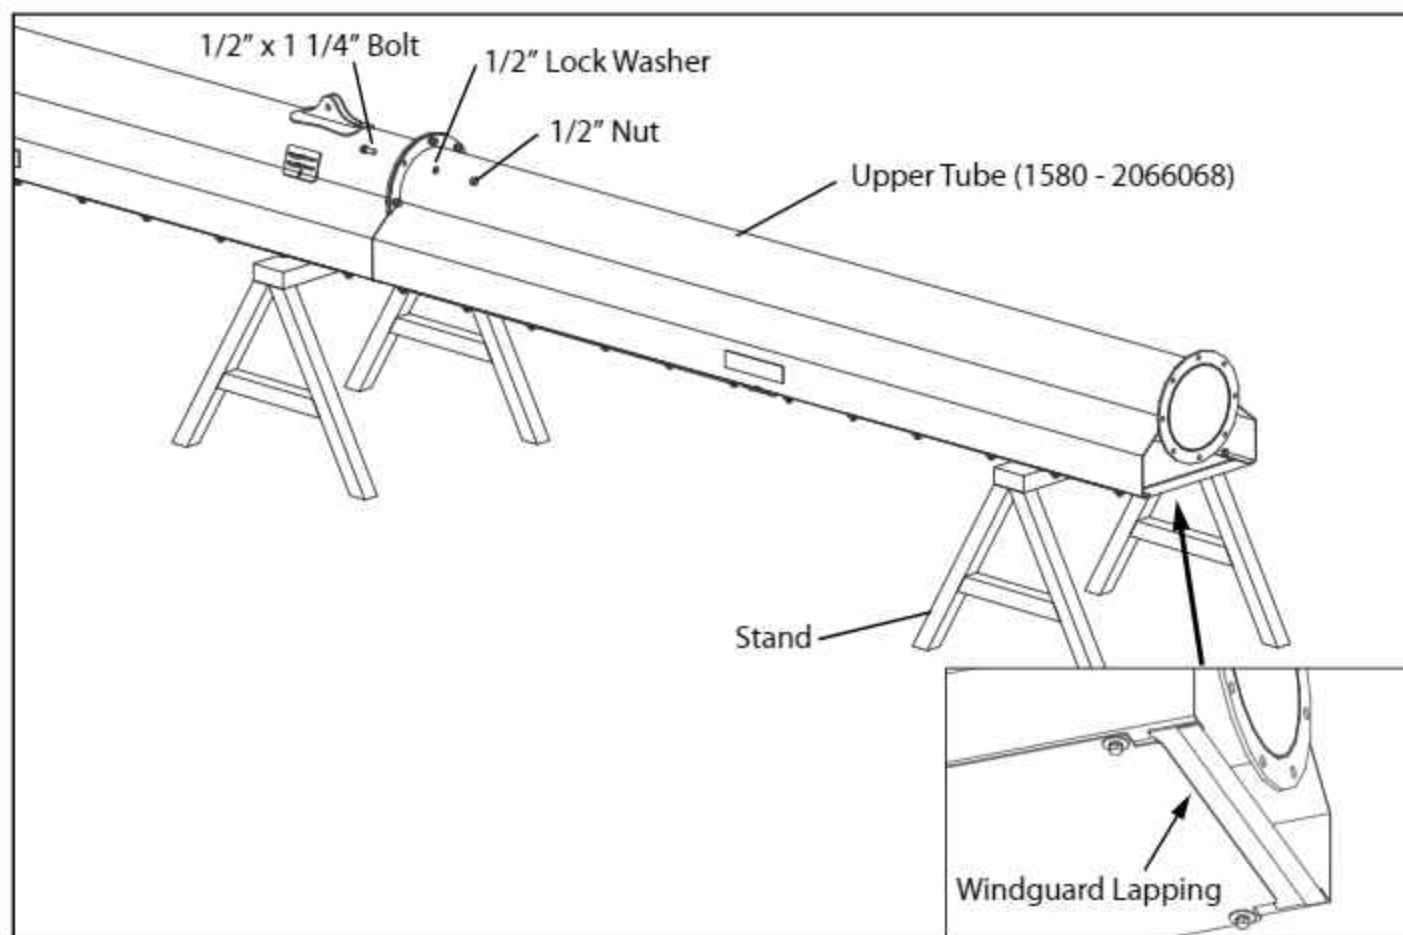

FIG. 3-7. Upper Tube Installation - 1580
6. Place a stand where shown in Fig. 3-7. Bring in the Upper Tube Assembly. Remove any Wind Guard Plates necessary to gain access to the tube flanges.